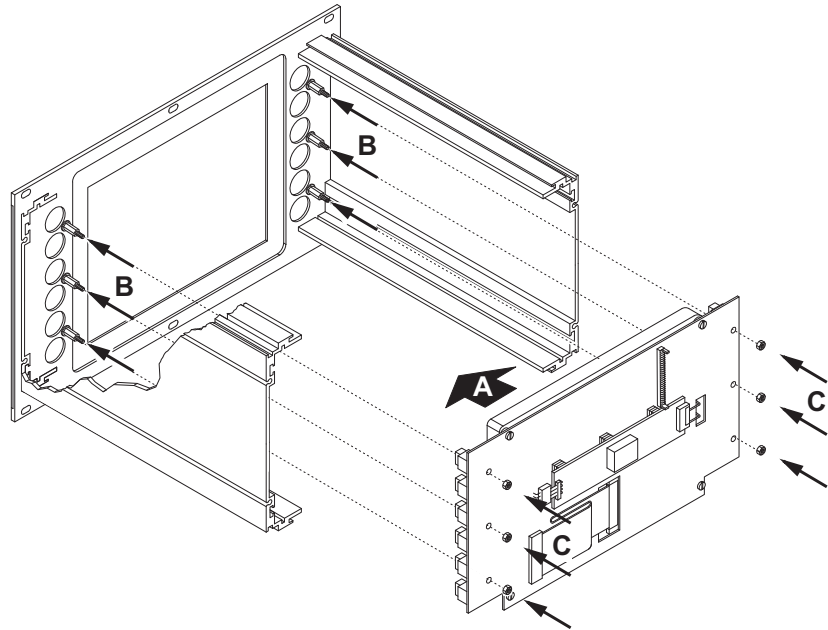

Fig. 8-6: Placing and fastening the new mounting unit
9. Now place the new mounting unit with display, pcb, keys and inverter (spare part no. 129675) with its face to the inner side of the front panel carefully inside the case (A). Take care about the correct orientation (see Fig. 8-6). Place the screw holes of the pcb exactly to the standoffs of the front panel. Thereby carefully slide the keys into the gaps of the case. Check the correct placement of the display pcb and fasten it with the six nuts (B). Check the mechanical function of the keys, if necessary adjust the mounting unit again (detach the screws a little bit and relocate the pcb). (Fig. 8-6)